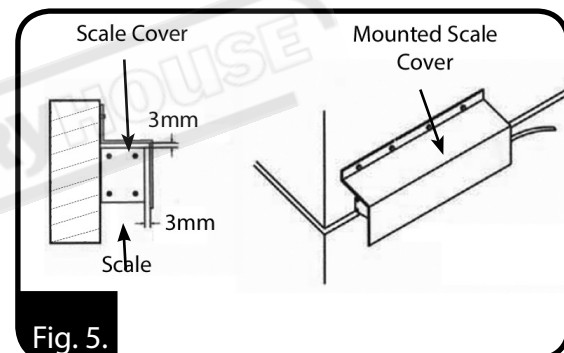

Fig. 5.
6. A clearance of at least 3.0mm between the scale and scale cover should be maintained. (Fig. 5)